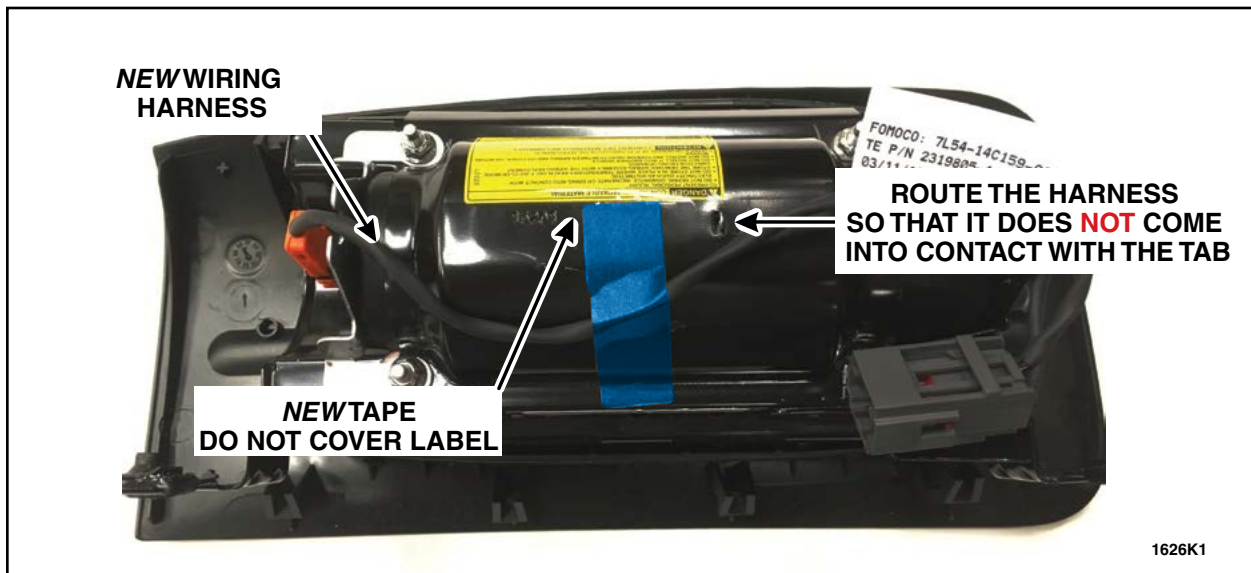

FIGURE 12
12. Install the *new* tape to the wiring harness and airbag assembly, do not cover the airbag warning label with the *new* tape. For correct placement See Figure 12.